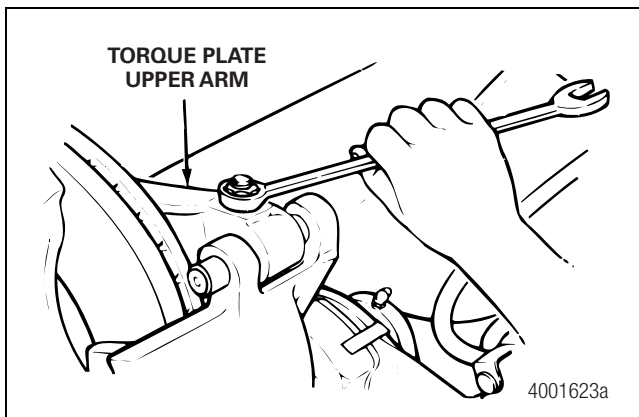

Figure 10.4
10. Remove the cotter pin from the slide pin retainer in the upper arm of the torque plate. Loosen the nut on the slide pin retainer. Figure 10.4.